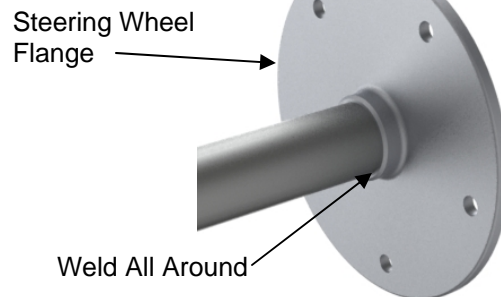

FIGURE 3
17. Remove the steering column assembly from the vehicle and weld u-joints complete. Slide the steering wheel flange ONLY onto the upper steering shaft making sure to line-up the reference marks made in step 16 and weld complete as shown in FIGURE 3. **DO NOT REMOVE THE COLUMN TUBE FROM THE SHAFT DURING WELDING!**